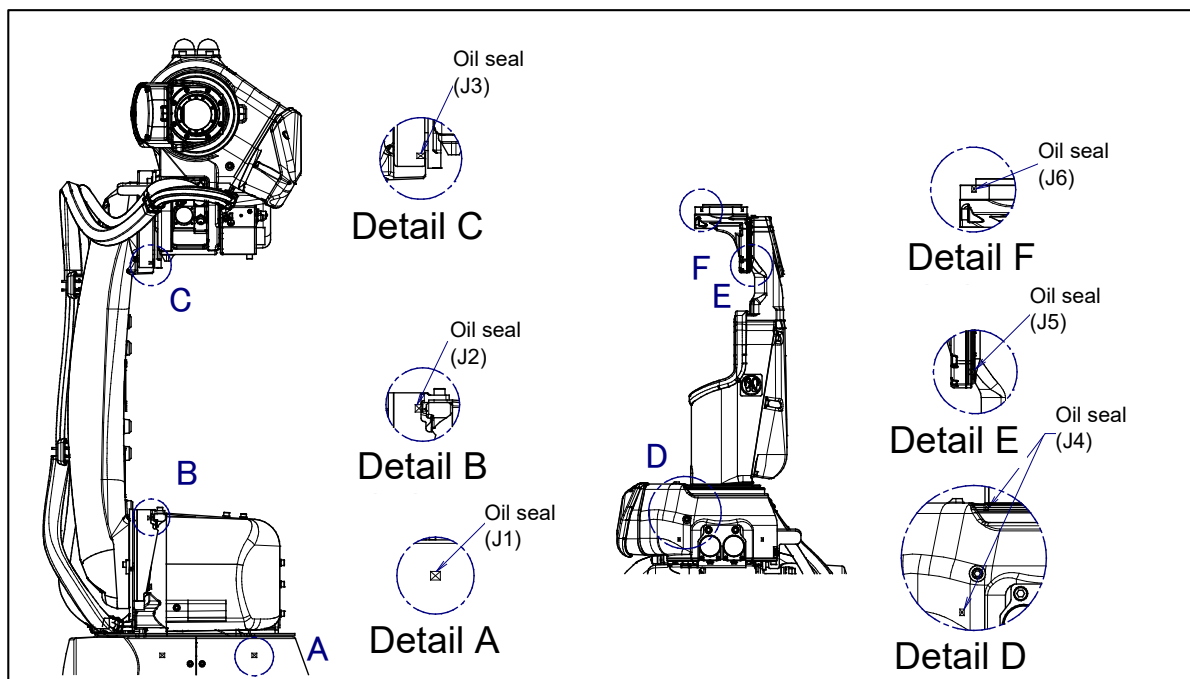

Fig. 7.2.1 (a) Check parts of oil seepage
- Oil might accumulate on the outside of the seal lip depending on the movement condition or environment of the axis. If the oil changes to a state of liquid, the oil might fall depending on the axis movement. To prevent oil spots, be sure to wipe away any accumulated oil under the axis components as shown in Fig. 7.2.1 (a) before you operate the robot.